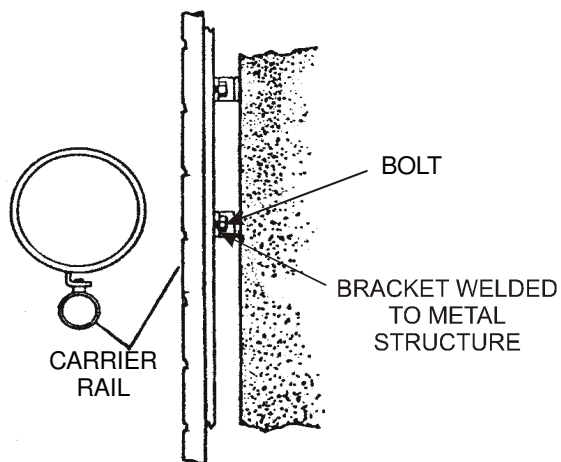

FIGURE 9
q. WELD BRACKETS are designed to adapt the safety climbing equipment to any type of metal structure. See figure 9. The spacing between brackets is recommended to be 50" (4 feet 2 inches) or every fifth bolts position with one bracket at the top of each section of the carrier rail. Attach the weld bracket using the 3/8" hardware supplied.